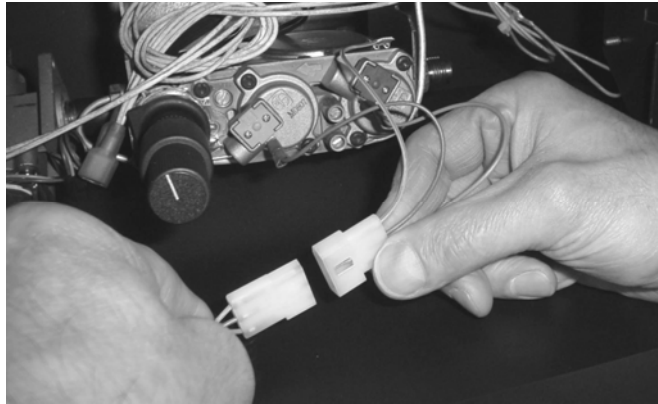

Figure 5
- 4 Disconnect the molex connector leading to the gas control valve (see Figure 5).